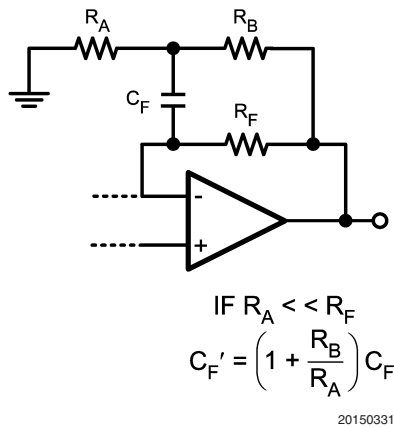

FIGURE 7. Modified Transimpedance Amplifier
Calculating C_F from *Equation (3)* can sometimes result in capacitor values which are less than 2 pF. This is especially the case for high speed applications. In these instances, it's often more practical to use the circuit shown in *Figure 7* in order to allow more sensible choices for C_F . The new feedback capacitor, C'_F , is $(1 + R_B/R_A) C_F$. This relationship holds as long as $R_A \ll R_F$.